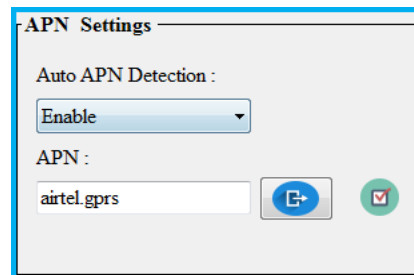

Figure 43
- To set APN, select mode of APN and then click on  button. If it saved correctly then right check will be appear next to submit button as shown in Figure 43. In case of error,  wrong check button will appear.